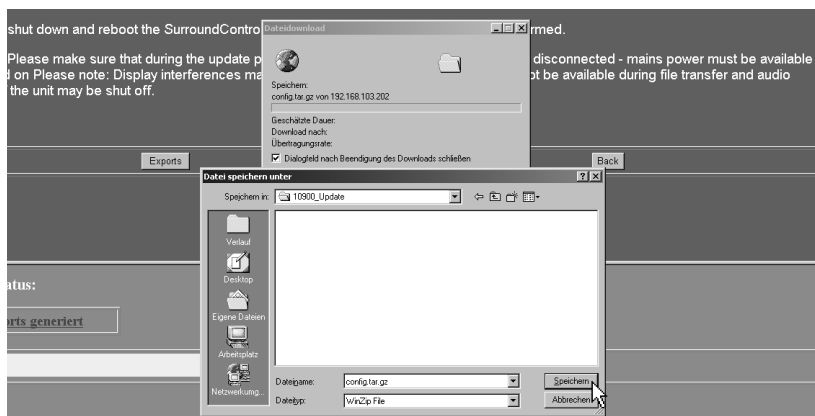

Fig. 5-7: Choose the folder for saving the export file
- The save file as („Datei speichern unter“) dialog box is shown. Choose the folder (i. e. C:\30900\_Update) for saving the export file config.tar.gz (see Fig. 5-7).